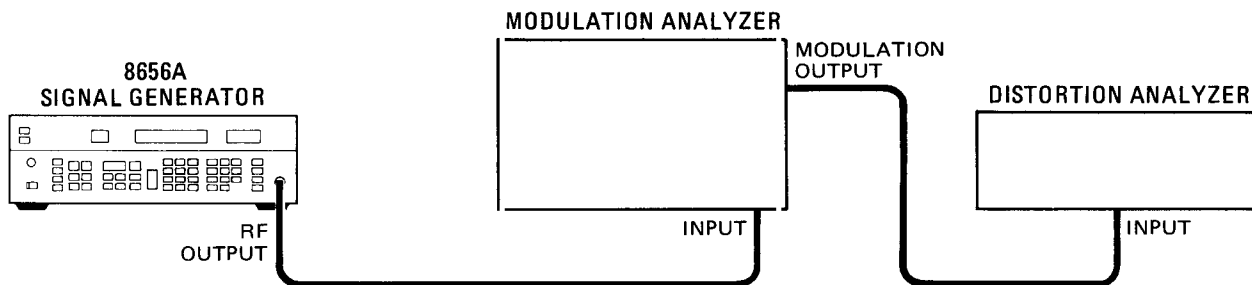

Figure 4-7. Modulation Test Setup
1. Connect the RF OUTPUT of the Signal Generator to the input of the modulation analyzer as shown in Figure 4-7.
2. Connect the modulation output of the modulation analyzer to the input of the distortion analyzer as shown in Figure 4-7.